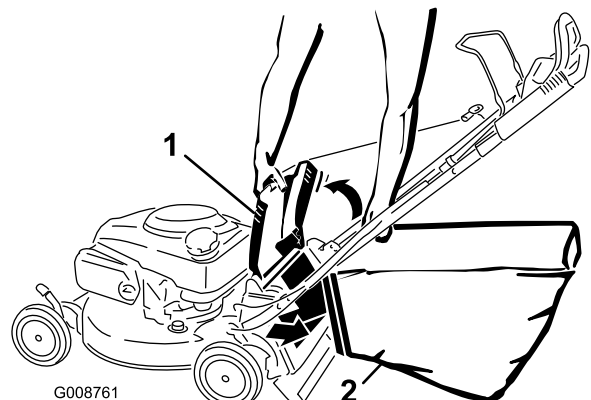

Figure 22
5. Hang the upper front edge of the bag on the notches (Figure 22).